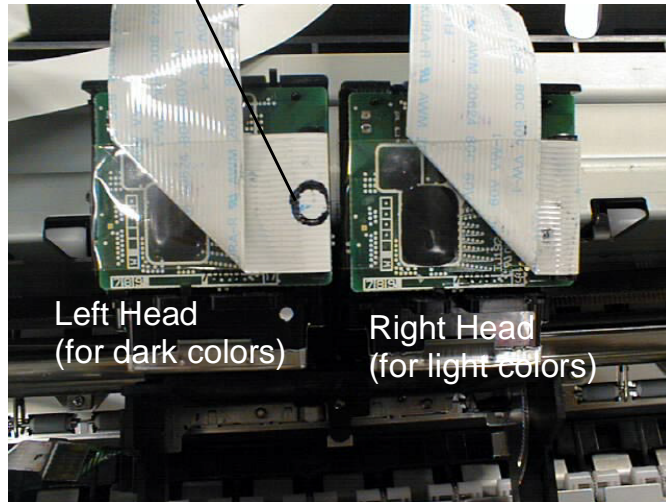

Figure 4-22. Print Head Removal(2)
9. Remove FFC inserted in each right and left head, and remove the print head. (Refer to Figure4-22)